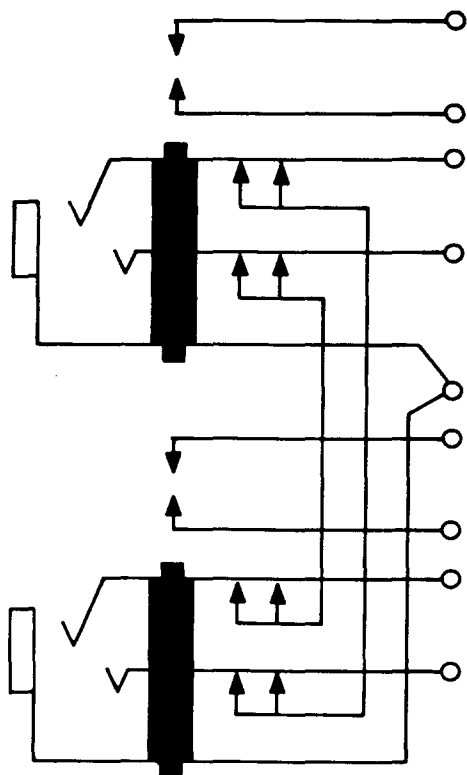

Fig. 3—578A Jack
2.03 578A: This single-mounted, twin, miniature jack (Fig. 3) has a single frame and is suitable to be used in equipment where space restrictions are a problem. This jack is arranged to mate with the 310 and similar-type plugs. This jack is used with the D2 Channel Bank Units.